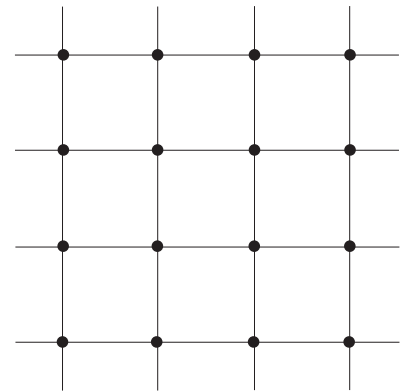

Figure 5
3. After placement is accurately achieved, enlarge dot size by allowing more material to flow through airbrush and by increasing the distance between airbrush and paper. See Figure 5.